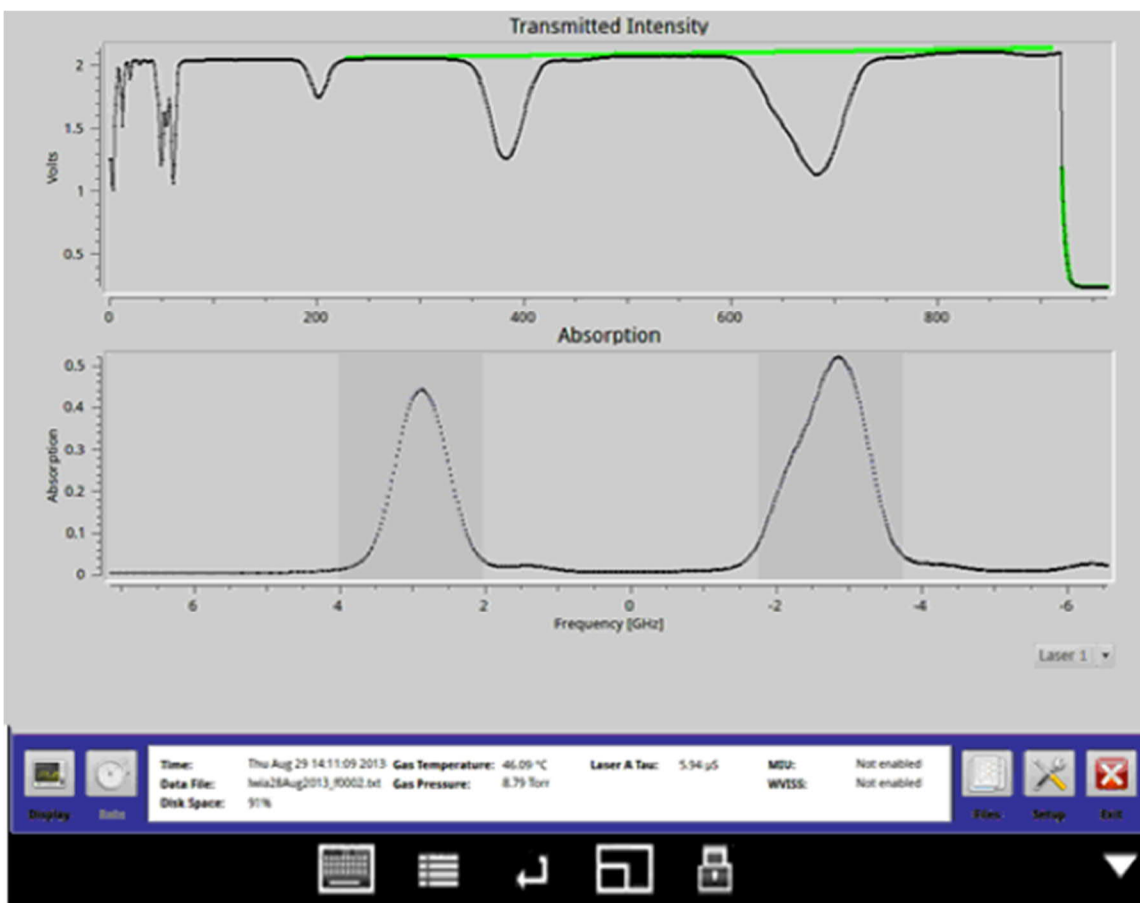

Figure 79: Analyzer Software Interface Screen (Size Adjustment for iOS Devices)
15. To connect the iOS device to the analyzer, tap the IP Config you set up. The analyzer software will display on the device. (Figure 79) The screen size is adjustable to fit the screen of the device.